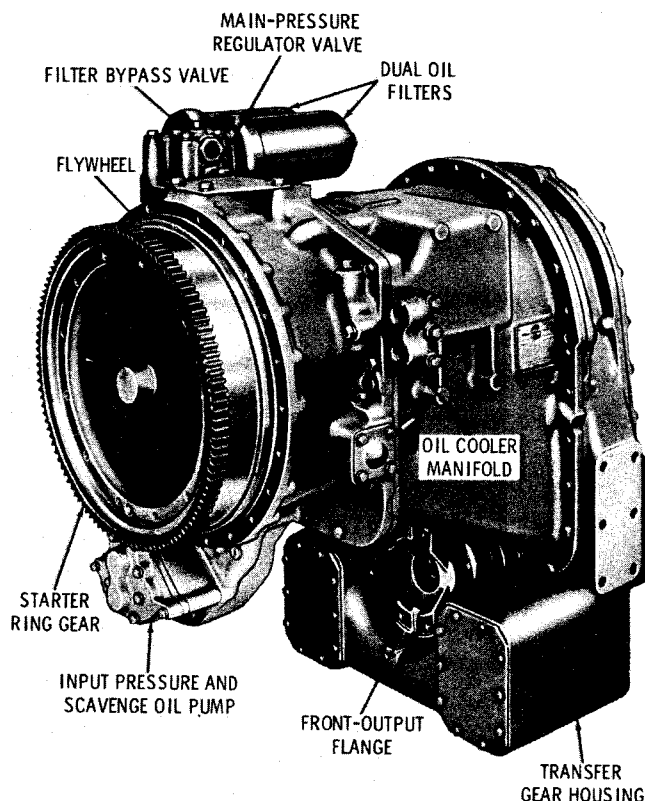

Fig. 1-1. Model CRT 5630 transmission, direct mount—left-front view
(1) This Service Manual covers the description, operation, maintenance, and overhaul of the CRT 5630 and CRT 5631 series Torqmatic® transmissions (fig. 1-1 through 1-4).
(2) All text and illustrations in this manual are applicable to all CRT 5630 and CRT 5631 models unless specifically designated as to model.